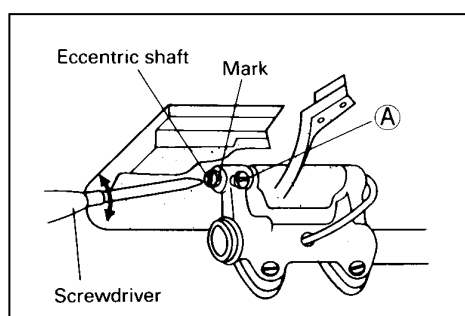

Fig.22
25、 Adjustment of feed dog inclination (Fig.22):